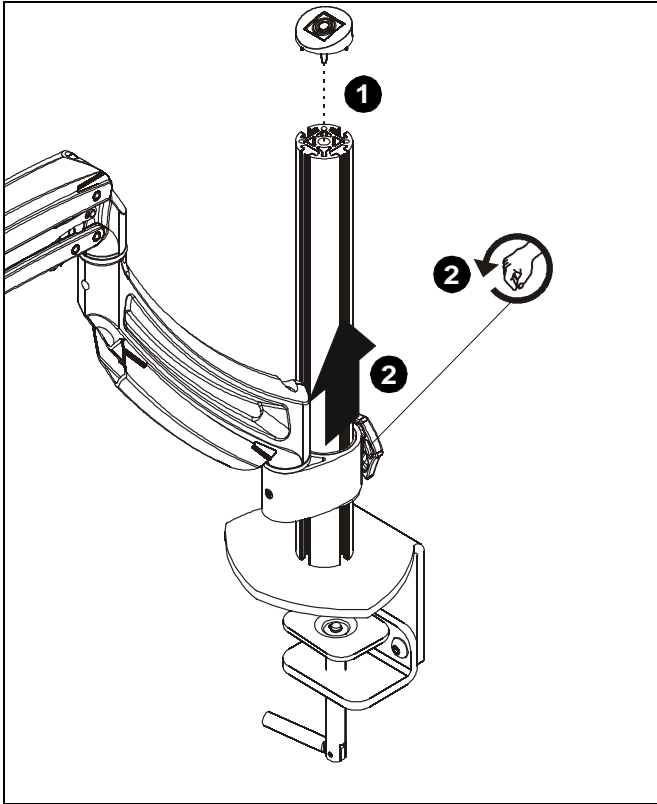

Figure 1
1. Remove top cap from column. (See Figure 1)
2. Loosen clamp and slide mount assembly off of column. (See Figure 1)